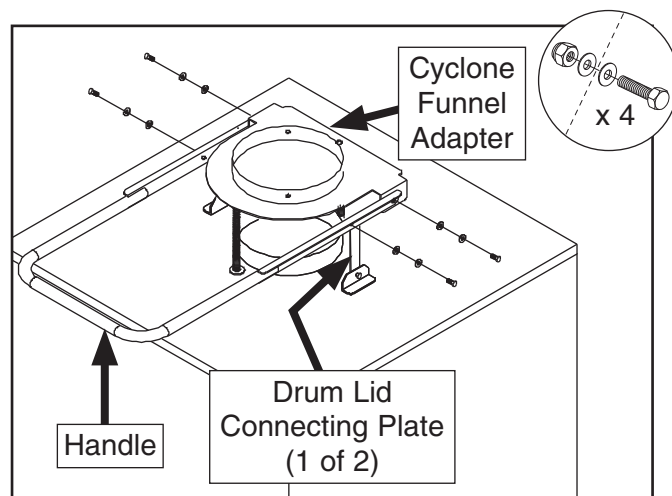

Figure 38. Collection lid handle attached to connecting plate and adapter.
51. Attach collection lid handle to cyclone funnel adapter and drum lid connecting plates with (4) $\frac{3}{8}$ "-16 x 1 hex bolts, (8) $\frac{3}{8}$ " flat washers, and (4) $\frac{3}{8}$ "-16 lock nuts (see **Figure 38**).